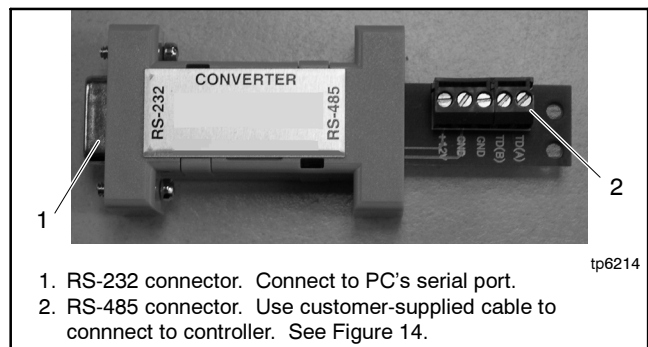
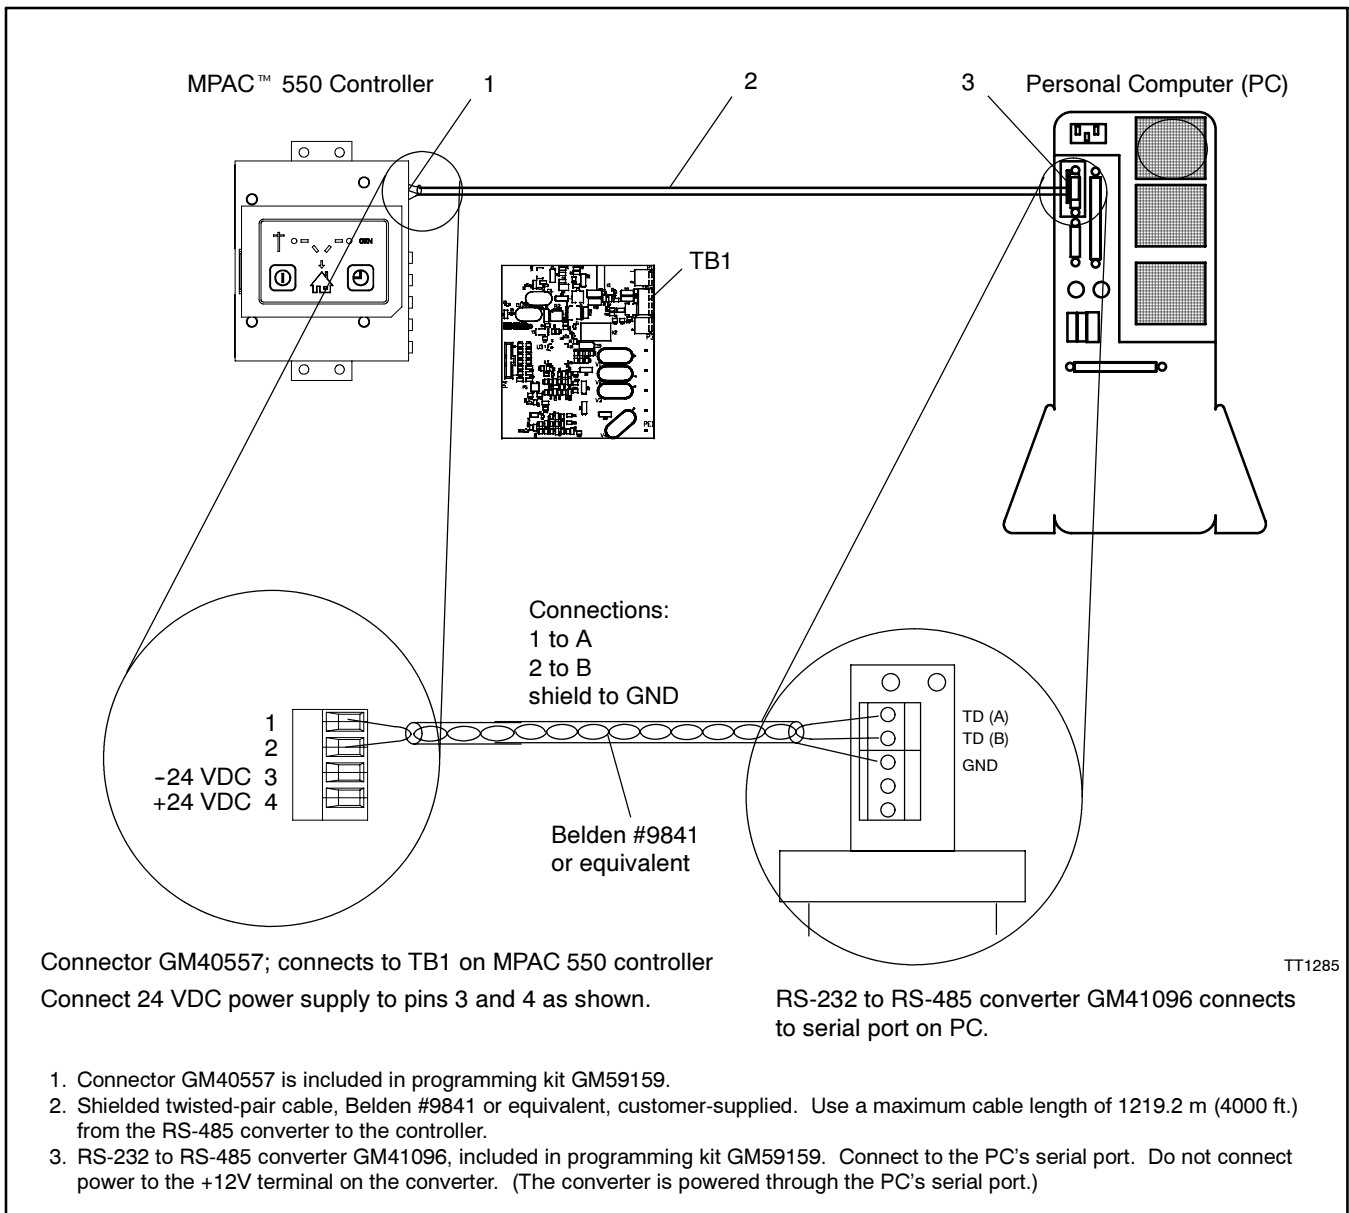

Figure 13 RS-232 to RS-485 Converter GM41096 (included in service kit GM59159)
Figure 14 MPAC 550-to-Personal Computer Connection
6. Connect the RS-232 side of RS-232 to RS-485 converter GM41096 to the serial port on the PC. See Figure 13 and Figure 14.
8. Use shielded twisted-pair cable (Belden #9841 or equivalent) and 4-pin connector GM40557 to connect the RS-232 to RS-485 converter to the TB1 connector on the controller's main logic board. See Figure 14.
9. Connect the 24 VDC power supply to pins 3 and 4 of 4-pin connector GM40557. See Figure 14. Do not turn on the power supply until instructed to do so during the software upgrade procedure in step 10.